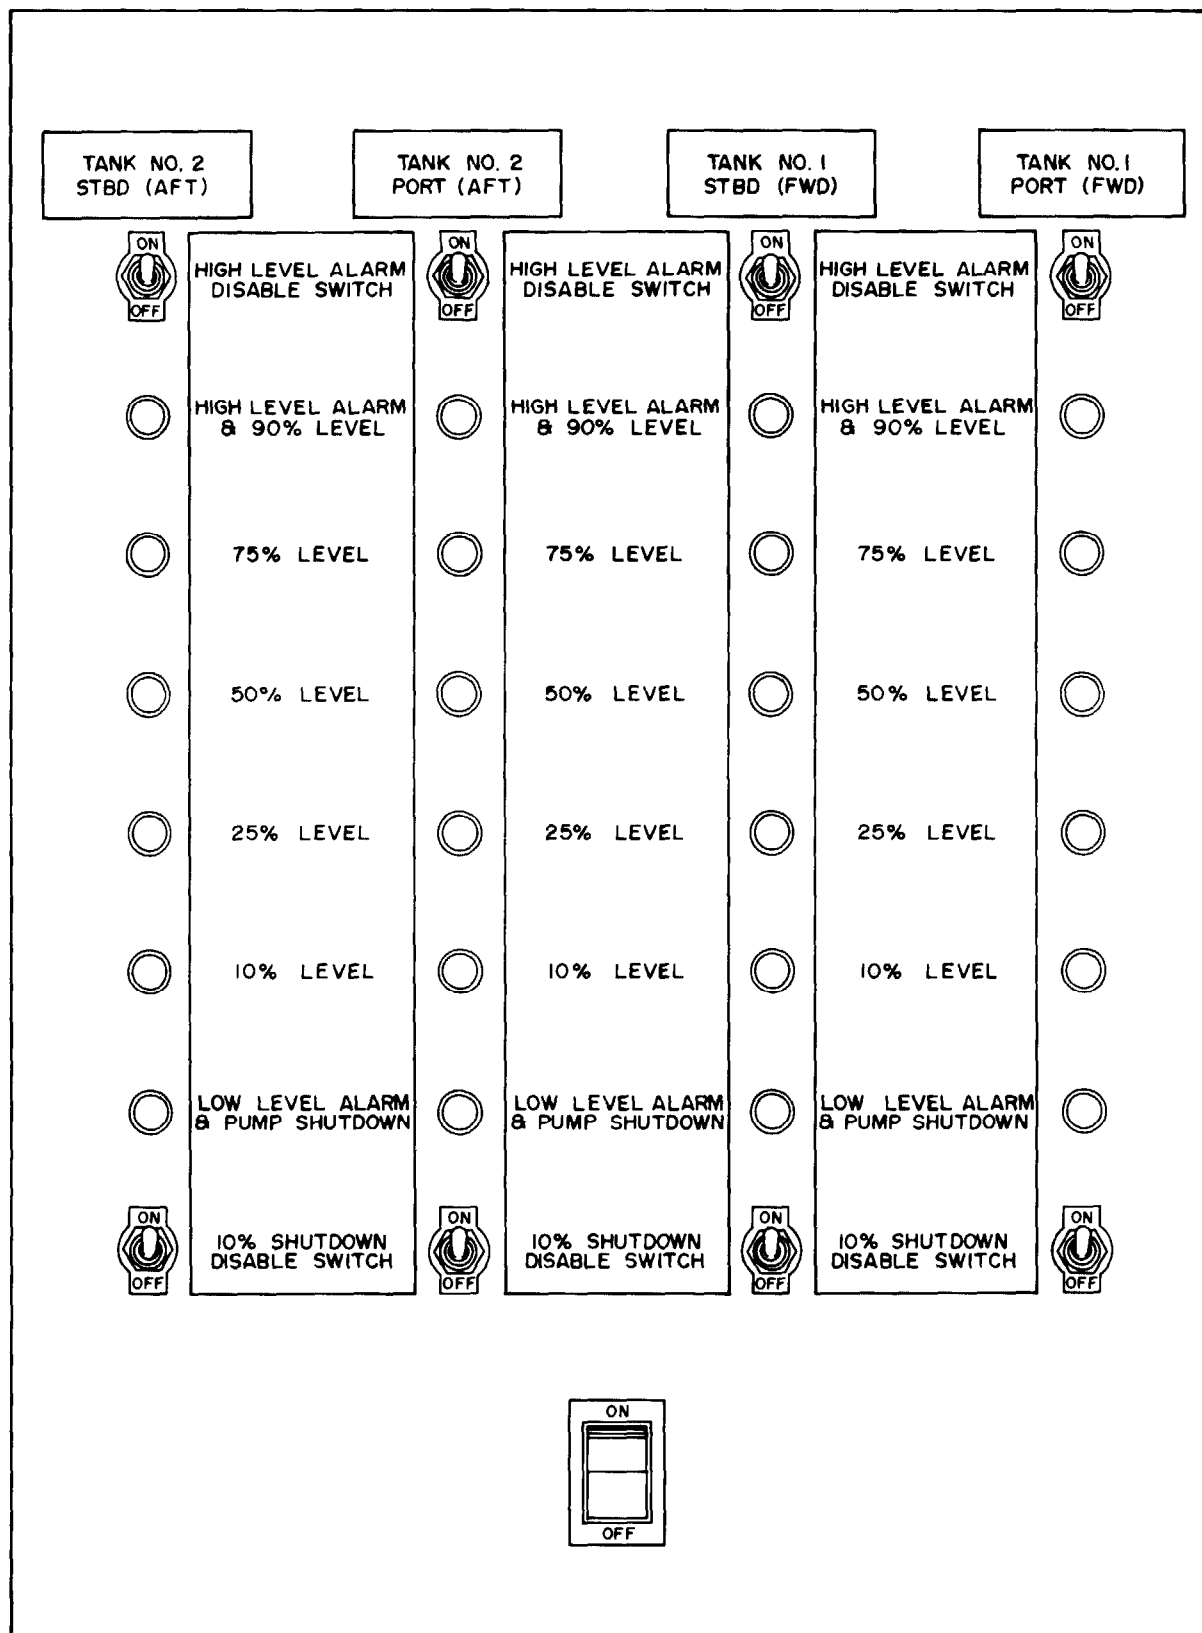

FIGURE 2-13
2.4.2 INDICATOR PANEL. The tank level indicator panel, as shown in Figure 2-13, can be seen through the Operator Station window. The panel controls the level indicator circuits, the high and low level alarms, and the automatic cargo pump shut-down. Because of the pump shutdown feature, the 24v DC breaker switch must be on to operate the cargo pumps.